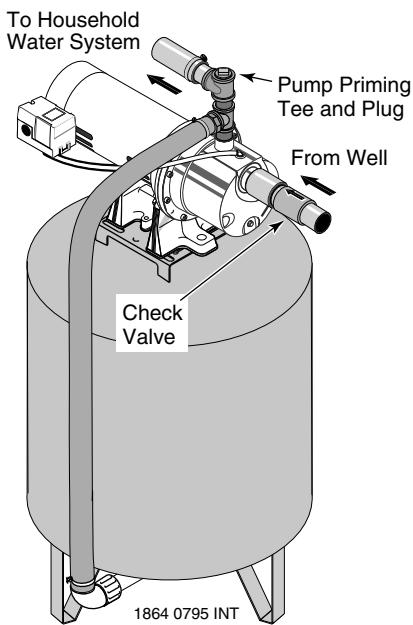

Figure 4: Pre-charged Tank Connections
## PRE-CHARGE TANK CONNECTION (Figure 4)
1. Install two tees in the pump discharge port (see Figure 4). The pipe size must be at least as large as the discharge port.